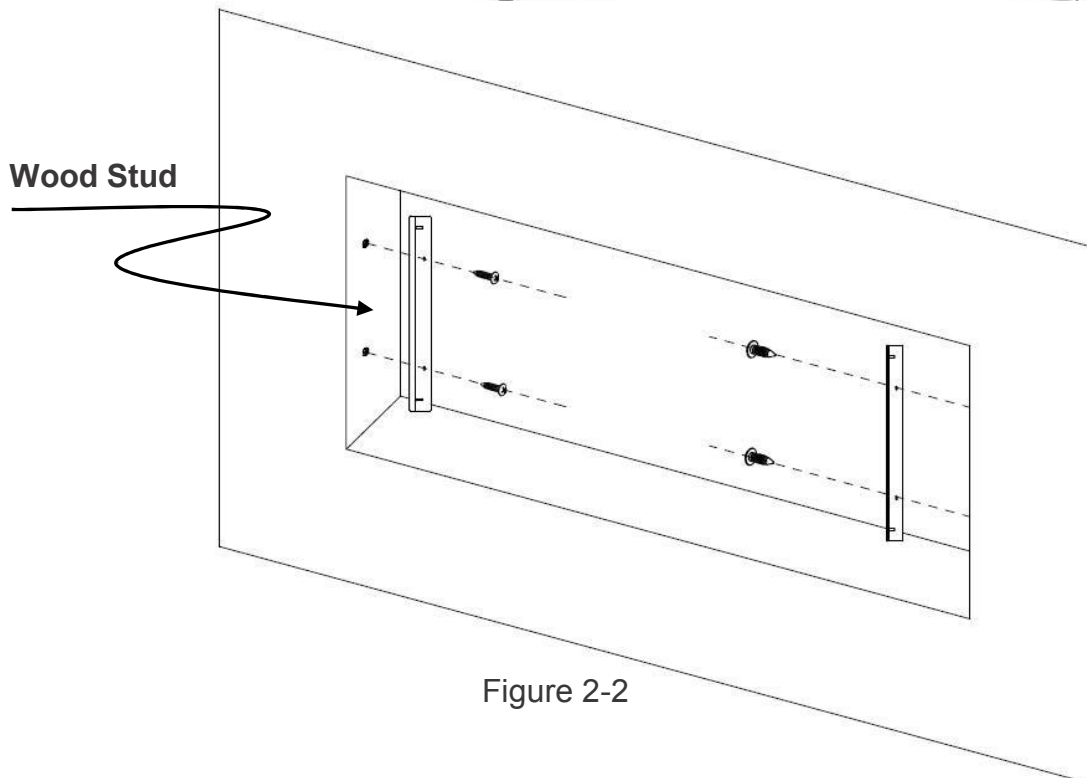

Figure 2-2
- C. Fix the two metal brackets **(N)** (1per side), with 4 screws **(B)** (supplied) through wood stud. **(Figure 2-2)**